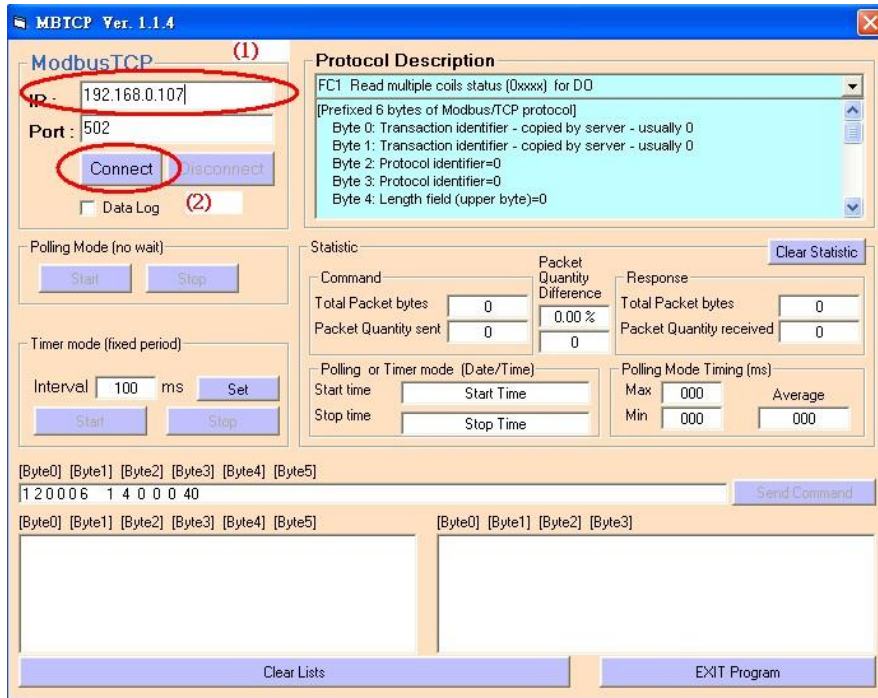

Figure 84 MBTCP Utility
-- Start the test utility “MBTCP” (*Figure 84*) on the PC.